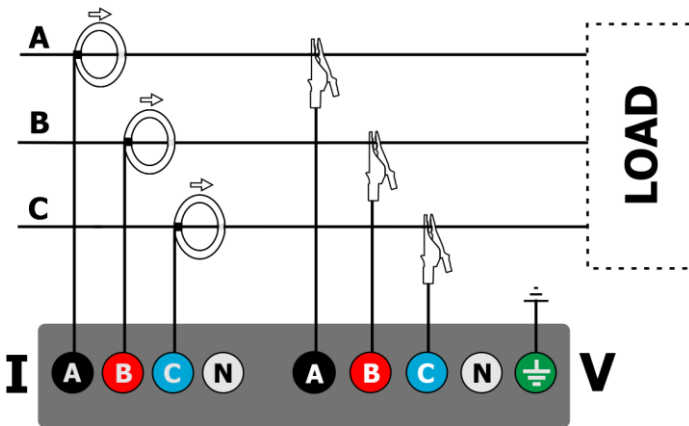
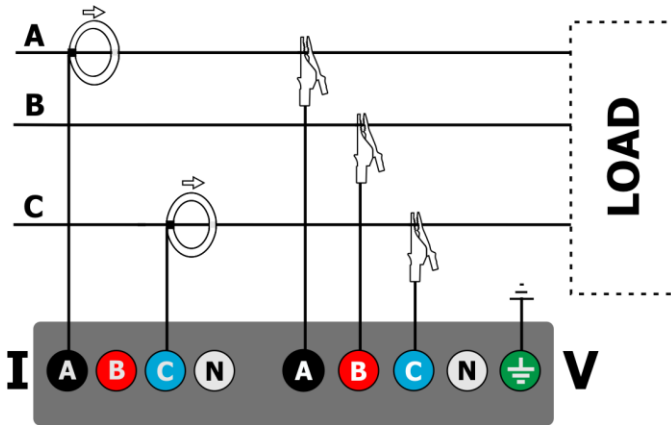

Fig. 61. Wiring diagram – 3-phase 3-wire, 3-phase open delta systems.
Fig. 62. Wiring diagram – 3-phase 3-wire Aron, 2-element systems (current measurement using Aron method).
- 3-phase 3-wire, 3-phase 3-wire Aron (GB) / 2-element, 3-phase open delta (USA)(Fig. 61, Fig. 62).
In three-wire AC systems, current may be measured by the Aron method (Fig. 62), which uses only two probes that measure linear currents I_{L1} and I_{L3} . I_{L2} current is then calculated using the following formula: